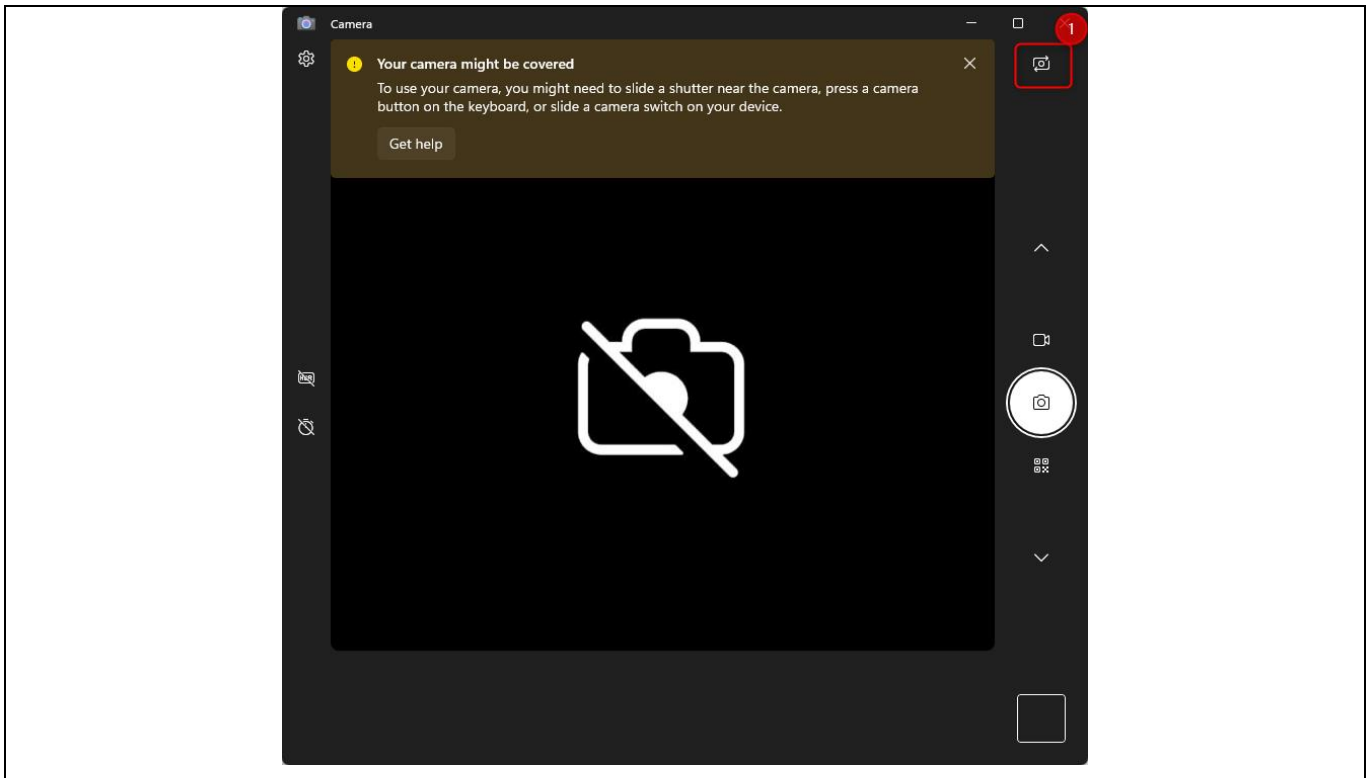

Figure 12 Windows Camera application
4. Open the **Windows Camera** application. Click on the flip camera icon at the top right corner of the window as shown in Figure 12